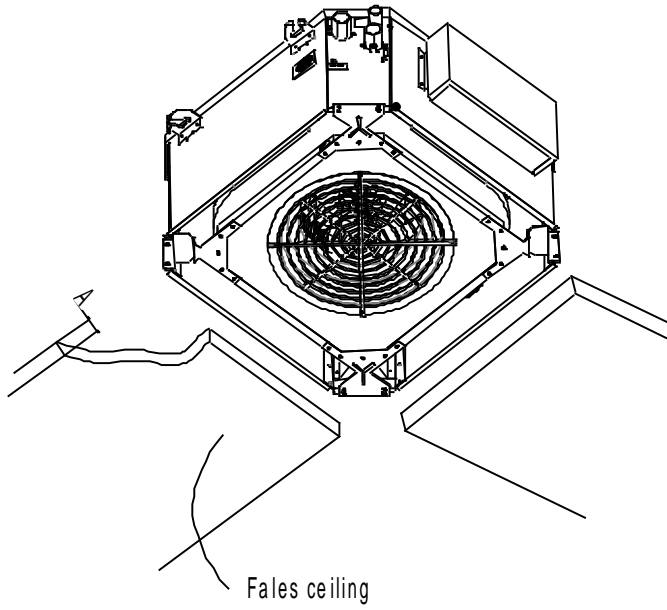
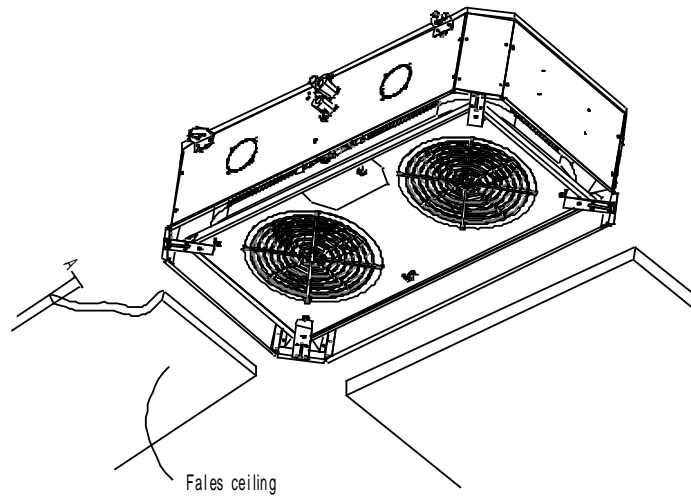

Figure 21
Figure 24
3. Using a level guide, line up the unit with a spirit level, and keep dimension between the body and the lower part of the false ceiling (Figure 21, Figure 24).